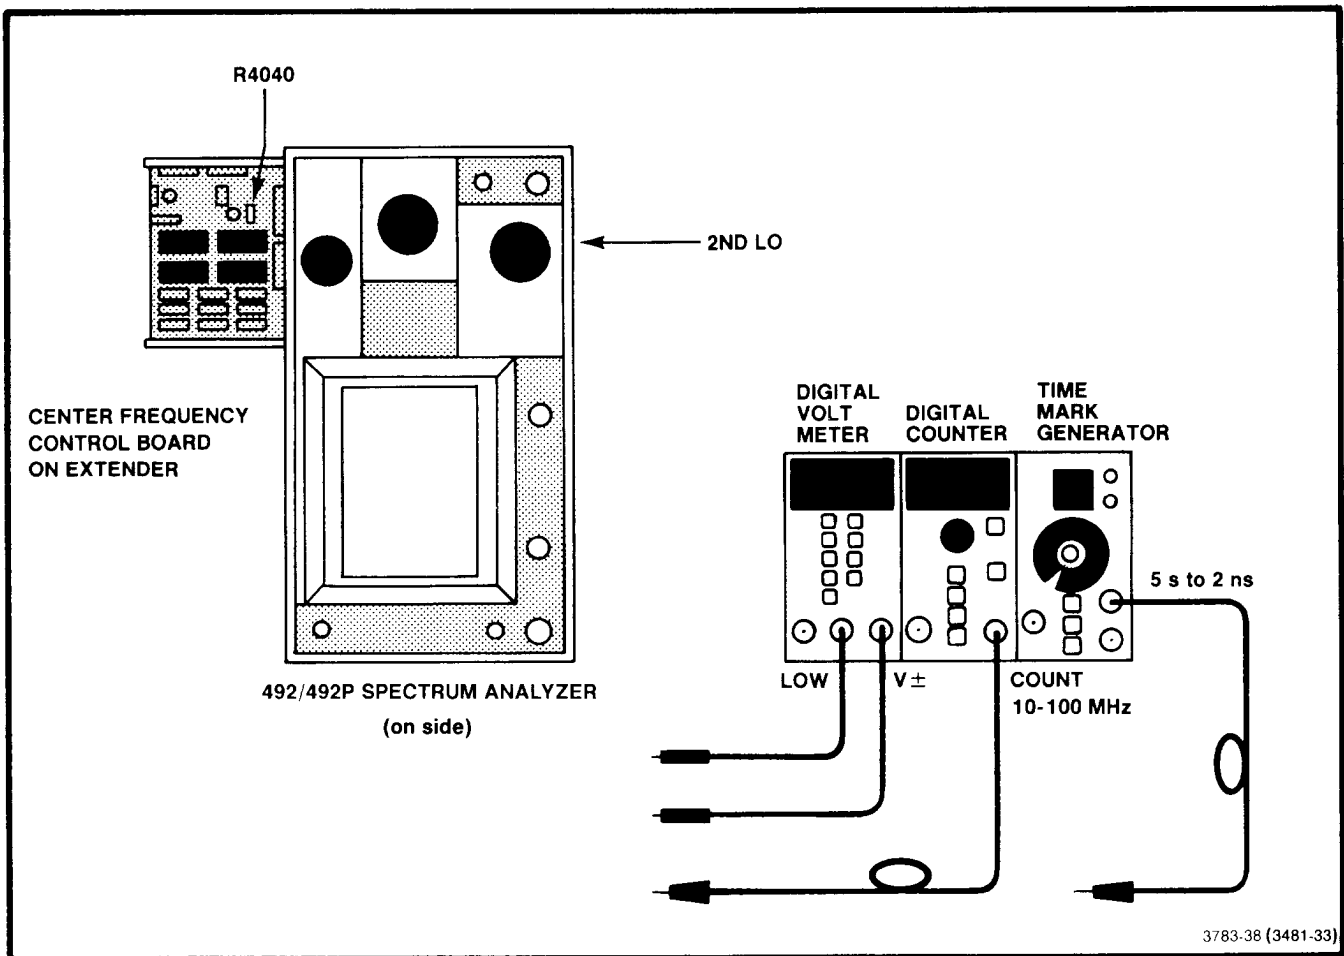

Fig. 4-21. Test equipment setup for calibrating the phaselock section of the 2182 MHz Phaselocked 2nd LO.
a. Test equipment setup is shown in Fig. 4-21. Remove and install the Center Frequency Control board on an extender board.